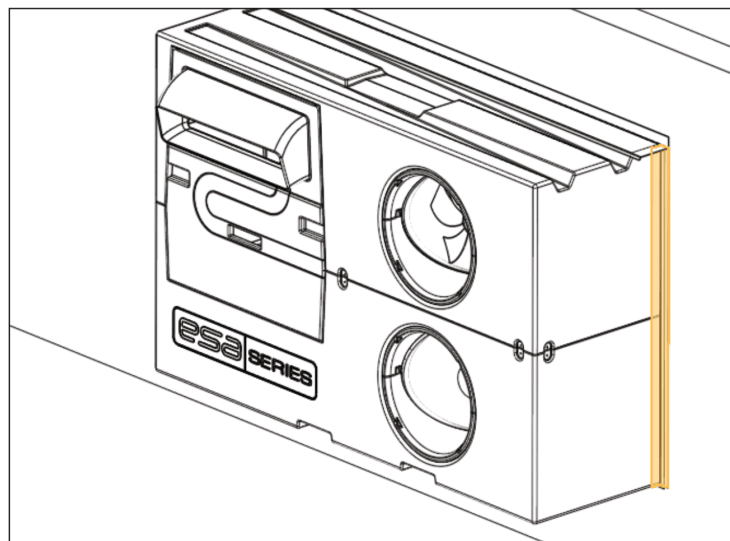

Figure 13 Positioning of the Side drip trims
- a. Also, install an exterior angle J trim on each side of the exchanger, according to Figure 13.